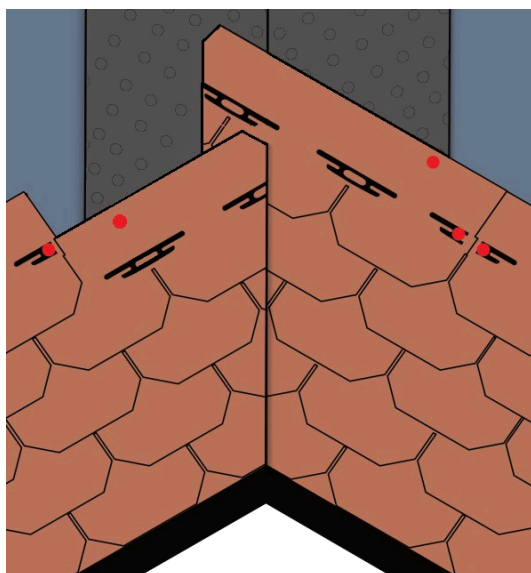

Fig. 13 - Shingles installation at valleys
- Once you have completed the first pitch for the entire length of the valley, move to the adjacent pitch. Start installing the shingles from the starting row and continue in successive rows. The last shingle in each row must reach at least the axis of the valley - Fig. 13. Nail the shingles up to 40 cm from the axis of the valley and apply them with torch in correspondence of the bituminous membrane. Once the installation of the shingles is completed even for the second pitch, trace the axis of the valley. Then cut the shingles of the second pitch following the valley line - Fig. 13.